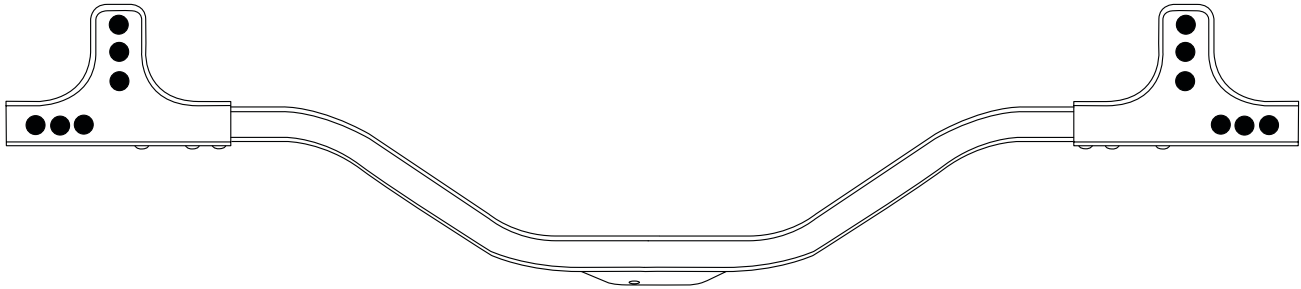

FIGURE 1
- (Refer to Figure 1) for Front view of radiator support, six (6) MIG plug welds each side.